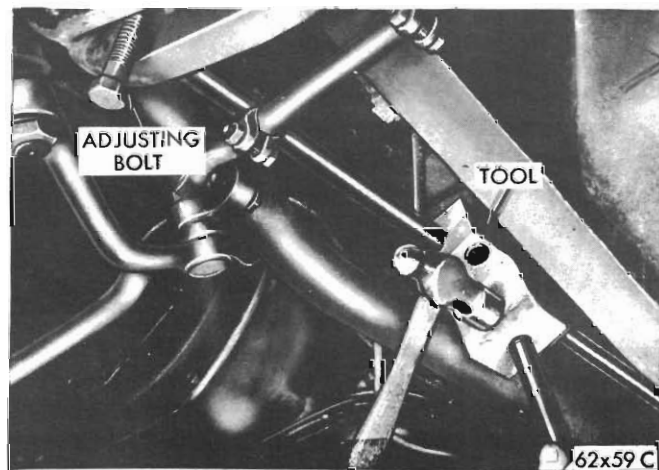

Fig. 5 - Removing torsion bar (Tool E2C30)
(5) Using Tool E2C30, remove the torsion bar from its anchors (Fig. 5). It is advisable to place Tool toward rear of the torsion bar to allow sufficient room for striking the pad of the tool.